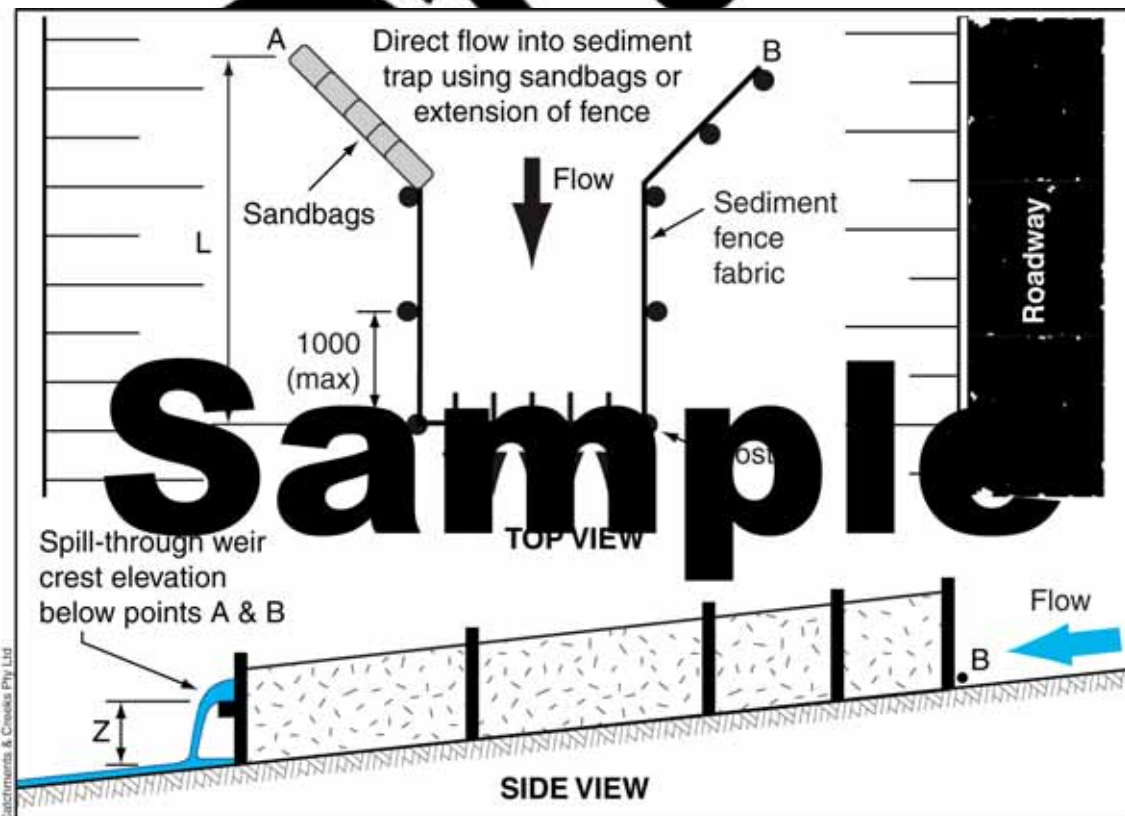

Figure 5 – Profile of a Type AU 'narrow' sediment trap
4. It is critical that the ends of each wing be perpendicular to the inlet bank (see Figures 5 and 10).
5. When located within a table drain, the allowable width of the sediment trap may be governed by the width of the table drain. A raised inlet bank can be used to direct flow into a narrow U-shaped sediment trap (refer to Figure 5).